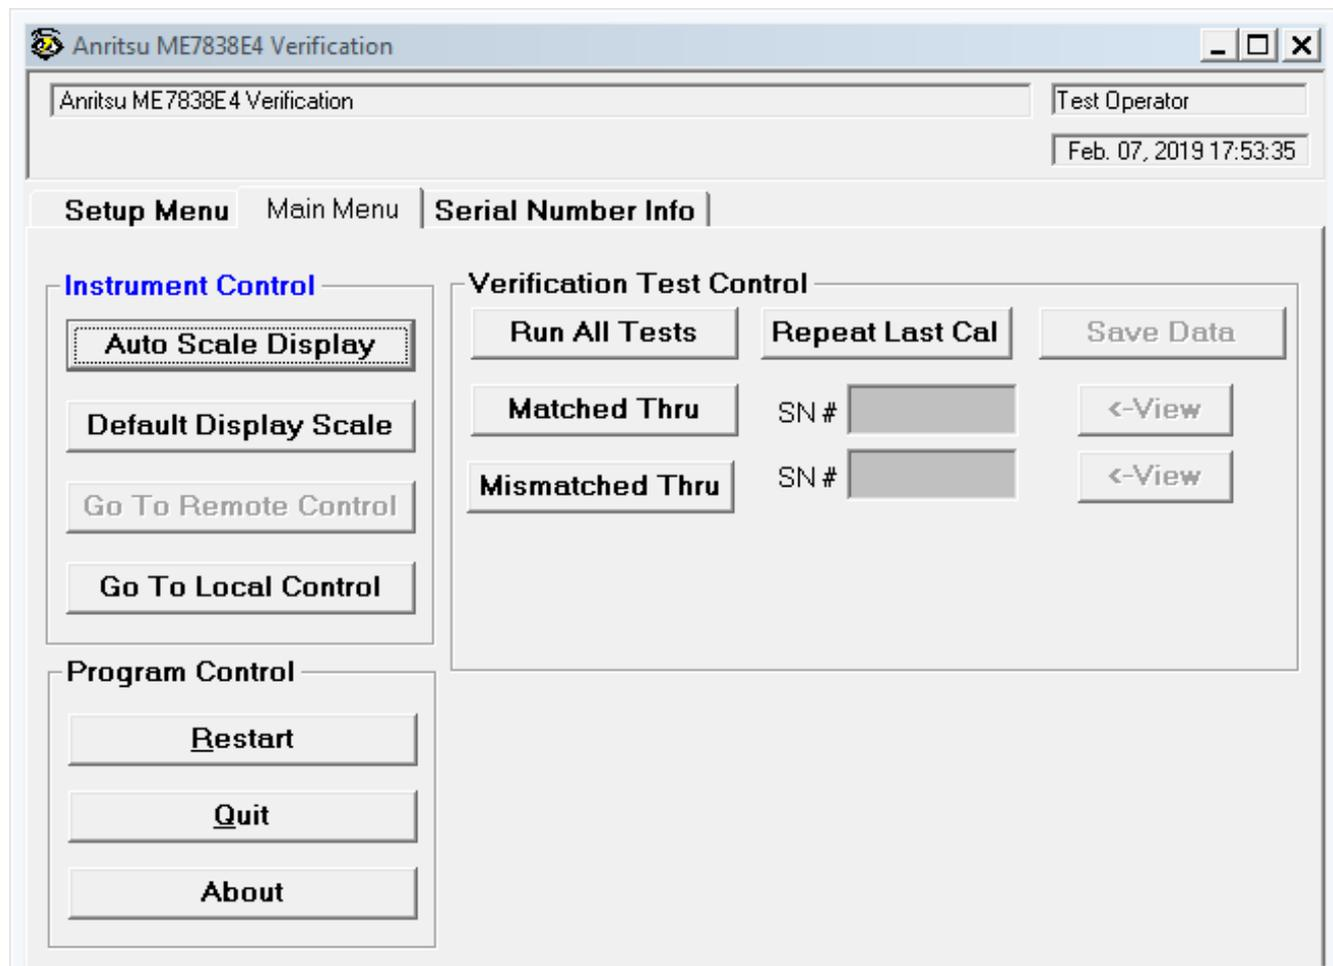

Figure 5-43. ME7838E4 Application Interface – Main Menu Tab
- The Main Menu tab display is described in the section immediately following and is shown in Figure 5-43
This command button runs both the Matched Thru and Mismatched Thru tests. Program execution starts with Section 5-11 “Matched Thru Tests” on page 5-32 and then continues with Section 5-12 “Mismatched Thru Tests” on page 5-34. When both tests are completed, program execution returns to the Main Menu tab shown in Figure 5-43 on page 5-27.
This command button re-calibrates the VNA according to the CURRENT calibration. This provides a way to recalibrate the VNA without having to reset the program parameters in case the original calibration was flawed for some reason. When the calibration sequence is complete, program execution continues to the Main Menu tab shown previously in Figure 5-43 on page 5-27.
9. If only the Matched Thru button was selected, the program returns to the “Application Interface – Main Menu Tab” on page 5-27. The dialog box is shown in Figure 5-43, “ME7838E4 Application Interface – Main Menu Tab” on page 5-27.
The dialog box is shown in Figure 5-43, “ME7838E4 Application Interface – Main Menu Tab” on page 5-27.